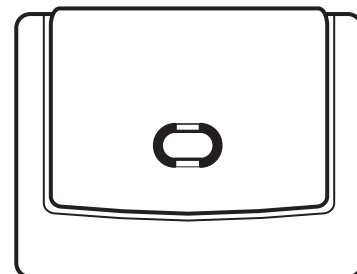

Fig. 11. Completed Receiver
7. Fix the Receiver to the wall using the fixings provided and refit the front cover ensuring the correct orientation. Fig. 11.